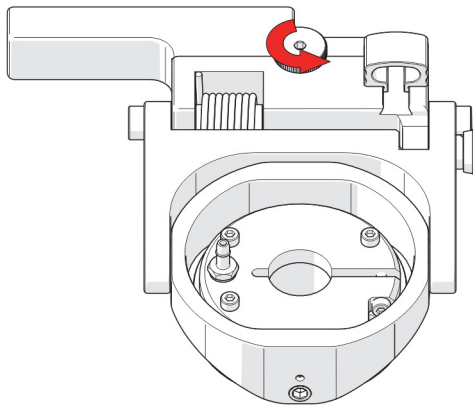

Figure 2-36 Loosen knob
2. Rotate the probe holder adjustment knob (see Figure 2-36 on page 73).